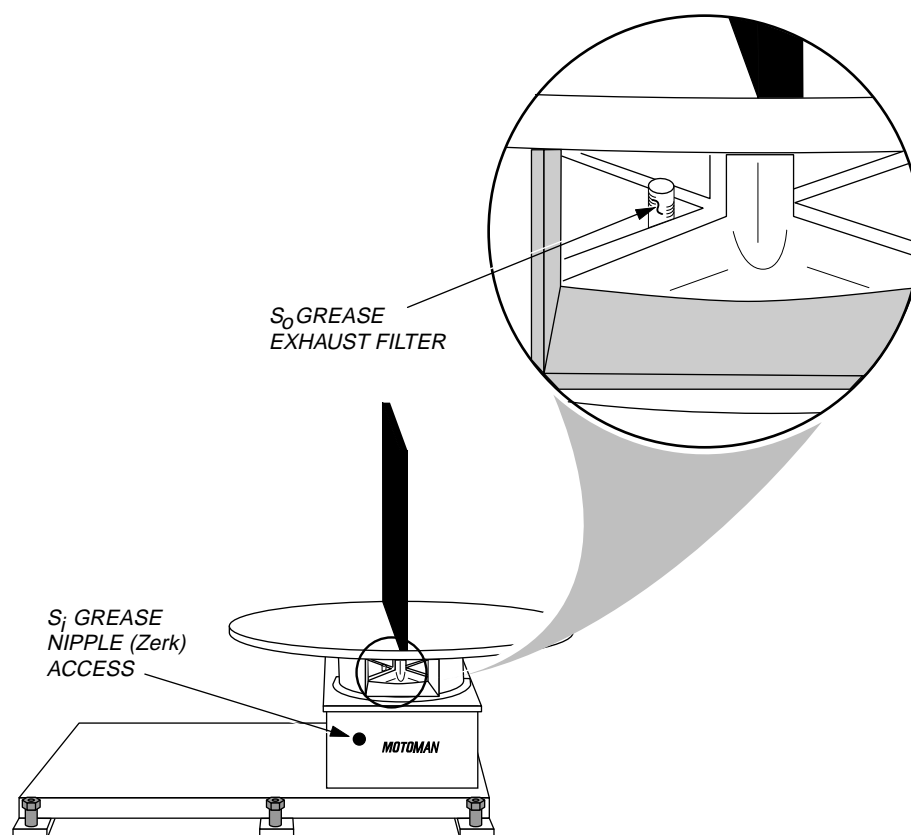

Figure 6-2 Positioner Lubrication
2. Remove SO exhaust filter before adding any grease (see Figure 6-2). If grease is added with exhaust filter still in place, grease will enter motor and cause damage.
2. Remove S_o exhaust filter before adding any grease (see Figure 6-2). If grease is added with exhaust filter still in place, grease will enter motor and cause damage.